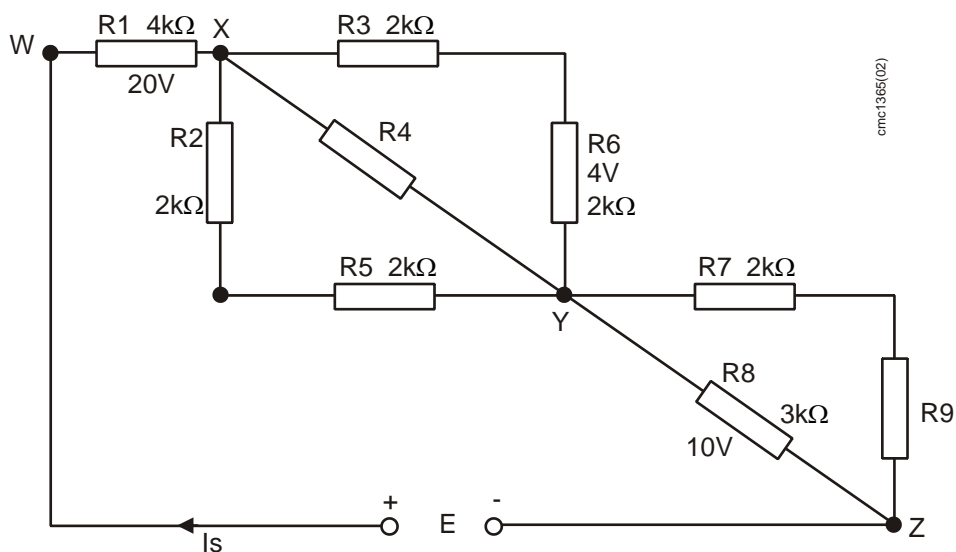

Figure 53
12. Values of resistance and voltage are as shown in Figure 53 above. Calculate:
- The applied voltage (E)